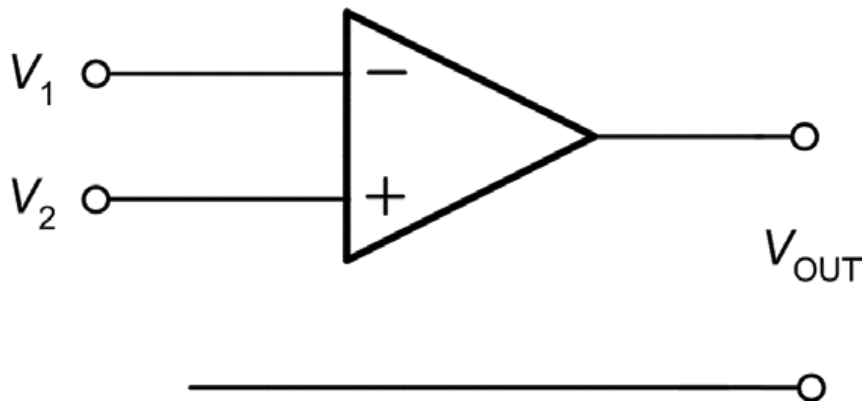

Figure 1.46 A comparator
- A comparator using an operational amplifier is shown in Fig. 1.46.